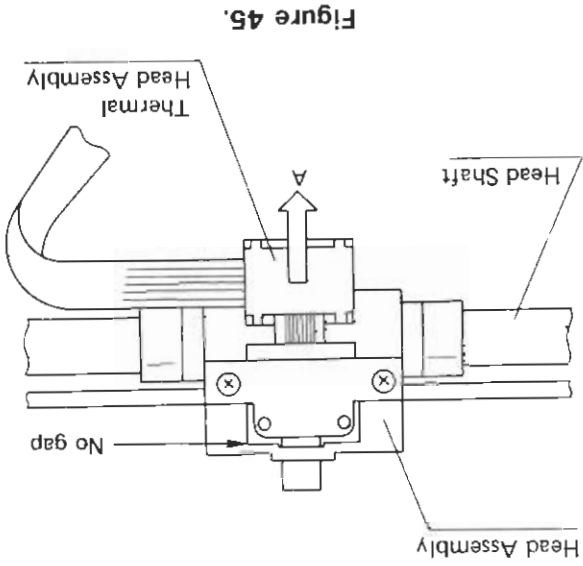

Figure 45.
2. Pull out the Thermal Head Assembly (as shown in Figure 45) by pinching it between your fingers. Hold the Head Assembly with your other hand.